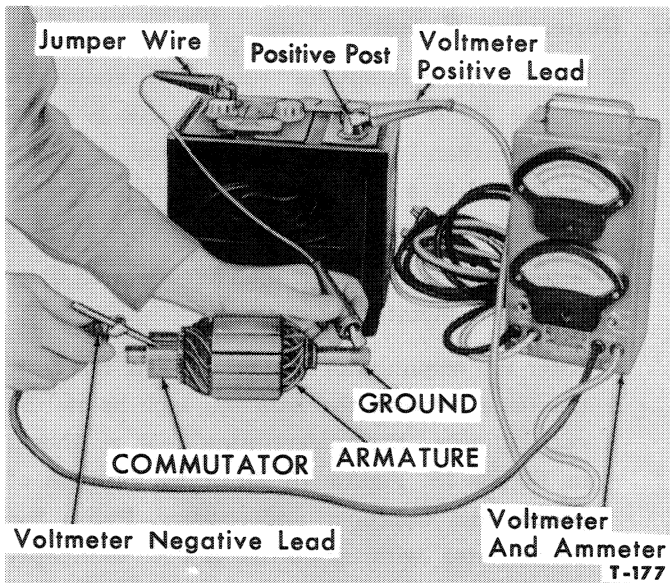

Figure 10—Checking Armature for Grounded Circuit
2. Check the armature for a grounded circuit by connecting a voltmeter between the battery negative terminal (positive terminal 12-volt systems) and generator commutator. Connect a jumper lead from the other battery post to the armature core or shaft as shown in Figure 10. Contact each commutator segment with the voltmeter lead. If voltage is indicated on the volt-